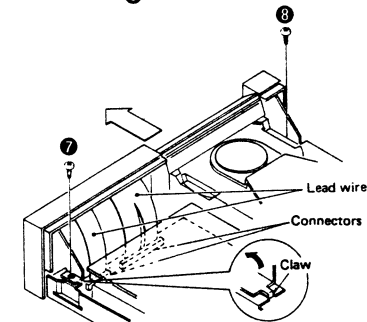

Fig. 2
- Remove the 2 setscrews [Fig. 2 ; ⑦ , ⑧] of the front panel fitting, and release the 2 claws.
3. Remove the 2 setscrews [Fig. 2 ; ⑦, ⑧] of the front panel fitting, and release the 2 claws.